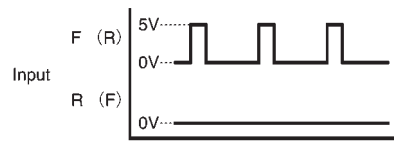
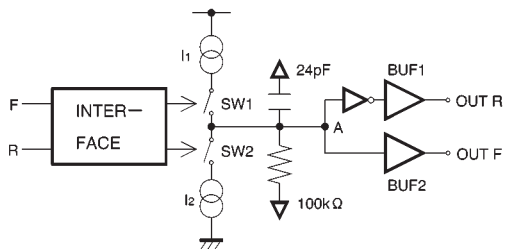

Fig. 3
Fig. 2
(1) Fig. 3 shows the inputs from the digital servo IC for CH1-CH3 drivers (all drivers except the spindle). SW1 is on when the forward input signal (HIGH level, over 2.4V) is present. SW2 is on when the reverse input signal is present (Fig. 2)
This can be increased by inserting a capacitor between point A (pins 3, 11 and 18) and  $V_{REF}$ . The constant current ( $I_{const}$ ) given in the electrical characteristics refers to  $I_1$  and  $I_2$  in Fig. 2.